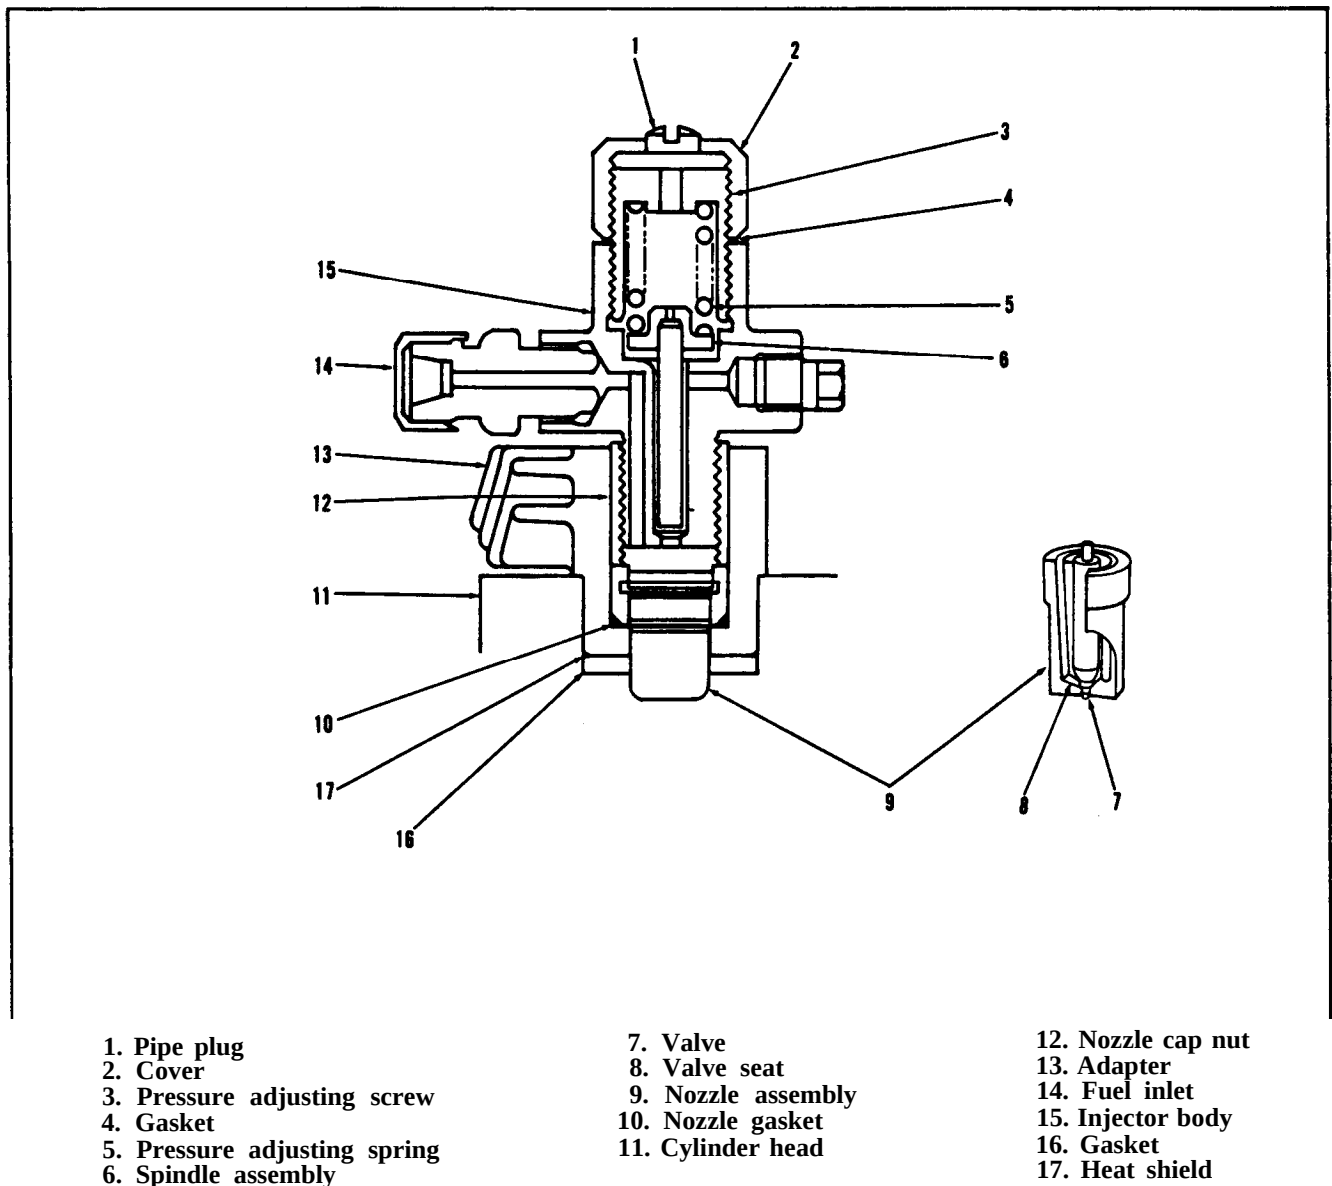

Figure 7-46. Fuel Injector
(1) Remove pipe plug (1, figure 7-46).
(2) Loosen (do not remove) cover (2).
(3) Install injector nozzle on a static fuel nozzle testing fixture.
(4) Insert a 5/32 inch hex socket key through hole in cover (2).
(5) Adjust opening pressure with hex key to correct pressure (1750 Psi for a **used injector**, 1950 psi for a 'new injector').
(6) Tighten cover (2), and recheck opening pressure.
(1) Secure injector in a holding fixture and remove nozzle cap nut (12, figure 7-46) and nozzle (9).
(1) Rinse valve (7, figure 7-46) and nozzle (9) thoroughly in clean fuel oil before assembly. Valve must be free in the nozzle. Lift valve (7) about one-third out of nozzle and release; valve should slide back to seat without aid when assembly is held at 45 degree angle. If necessary, work valve into nozzle body. Using dry compressed air, blow out fuel inlet (14).
(2) Remove all pressure on nozzle spring by loosening adjusting screw (3).